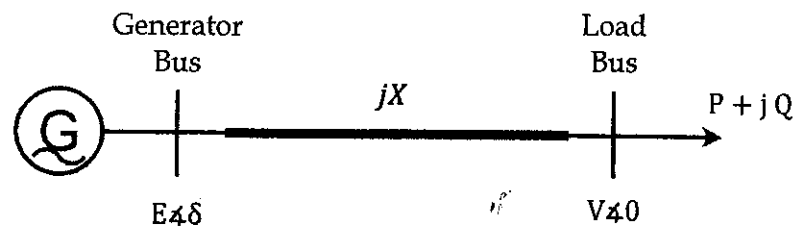

Figure Q5
b) Consider the 2-bus system shown in Figure Q5. Its generator bus voltage is $E \angle \delta$ and load bus voltage is $V \angle 0^\circ$. The line reactance is X and line resistance is negligible. The load consumes an active power of P and a reactive power of Q . All parameters are given in SI units. Take the base voltage as E and base impedance as X for the system.